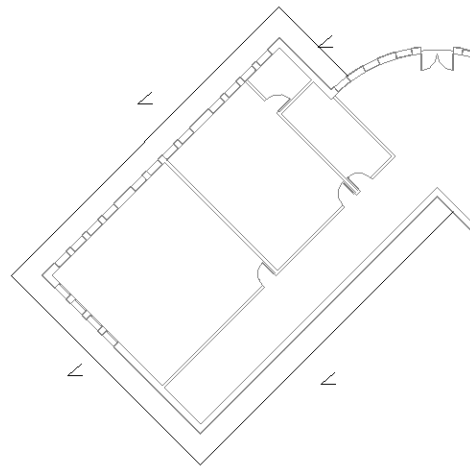

Figure 6-46 Completing the roof profile of Hall 1
7. Similarly, create the boundary lines using the other three exterior walls of Hall 1, at the same offset distance. The boundary lines are sketched, as shown in Figure 6-46.